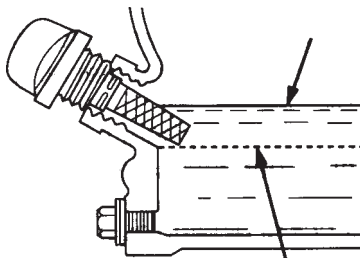

Figure 7. Engine Oil Dipstick (Oil Level)
4. If the oil level is low (Figure 7), fill to the edge of the oil filler hole with the recommended oil type (Table 4).